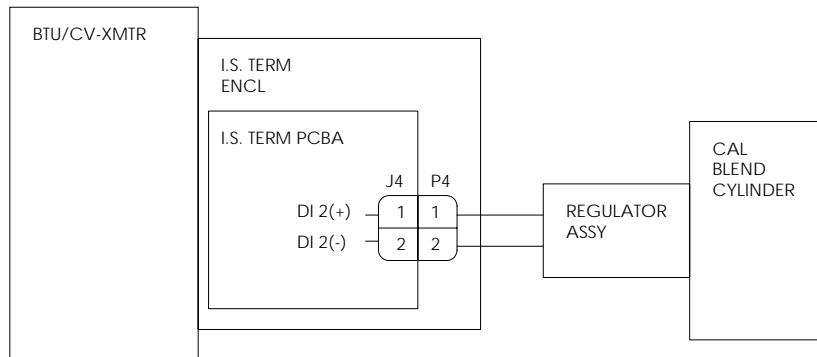

Figure 41 Carrier Blend Pressure Regulator with Relief Valve
- 4) Using instructions shown in Figure 41, attach Wires for the High Pressure Gauge to one of the Digital Inputs located in the Intrinsically Safe Termination Enclosure attached to the side of the Btu Transmitter Enclosure.